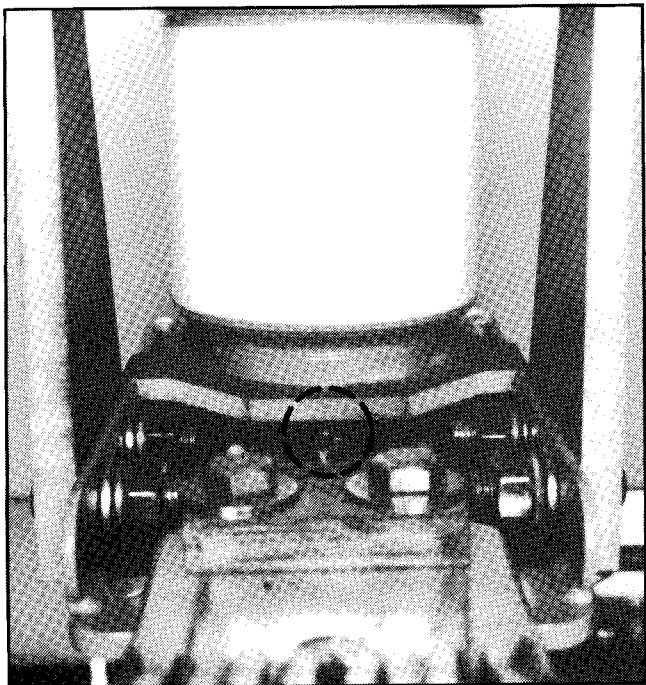

Figure 46. Contact Erosion Check Mark.
tion of acceptable contact condition is checked by the visibility of the erosion mark shown in **Figure 46**.
- Observe the erosion mark (**Figure 46**) of each pole. When this mark is visible, contact wear is within acceptable limits.